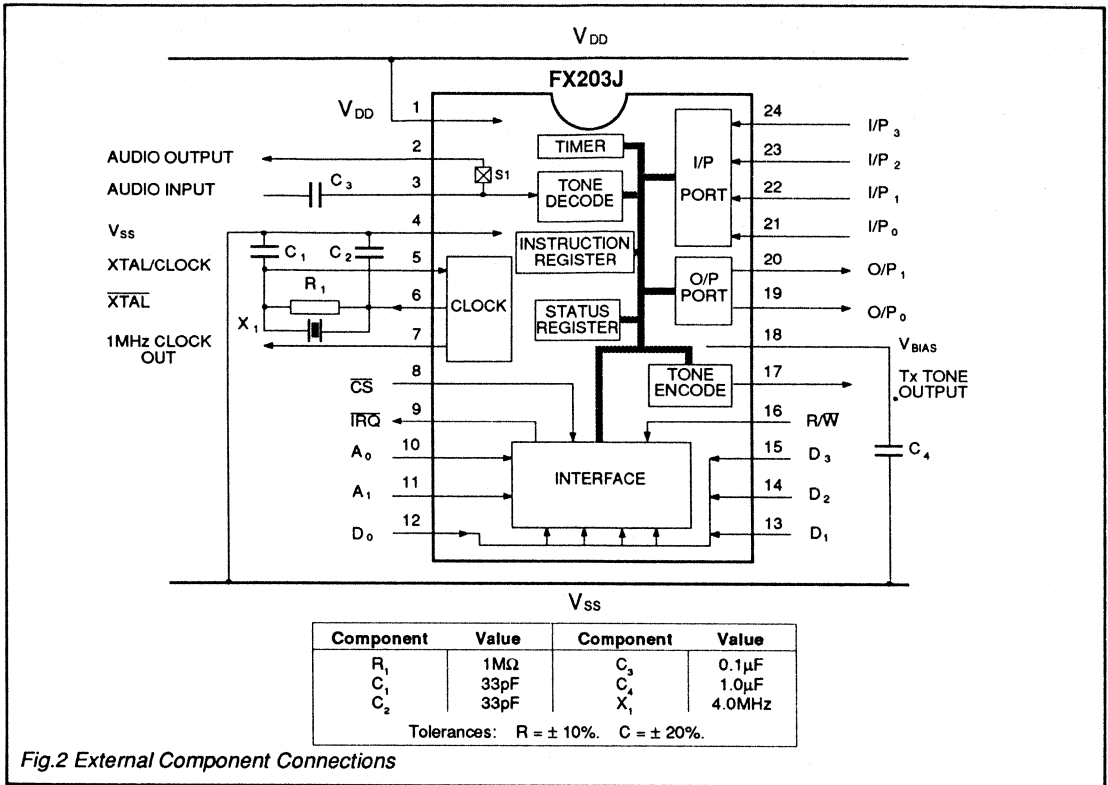

Fig.2 External Component Connections
**Xtal/Clock** : The input to the clock oscillator inverter. A 4.0 MHz Xtal or externally derived clock should be connected here. See Figure 2.
**Xtal** : The output of the 4.0 MHz clock oscillator. See Figure 2.
All external components (as recommended in Figure 2) should be kept close to the package.